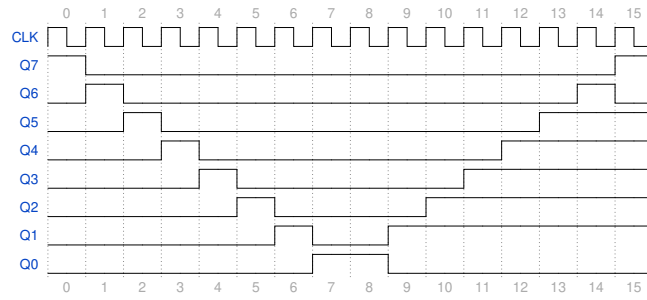

Figure 8: A waveform that repeats every 16 clock periods.
1. Consider the timing diagram in Fig. 8. Using any combination of *shift registers* and supporting gates, create a circuit with 8-outputs that produces this timing diagram.